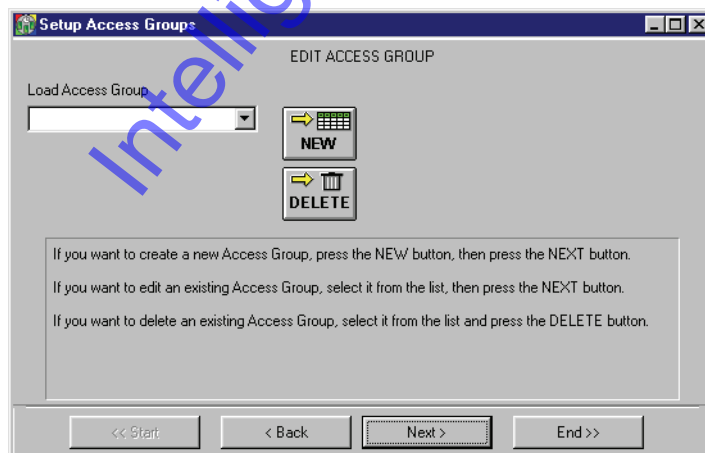

Figure 3-49: Edit Access Group Window
2. Click on the  button and the Edit Access Group window appears (see Figure 3-49).